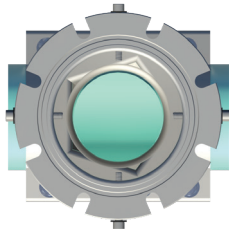

Figure 8
D.11) Check inside of valve body outlet to ensure gasket is properly seated. Completion pins are shipped in the fully installed position. Backout and ensure completion pins are flush with I.D. of the flange (see Figures 8 and 9).